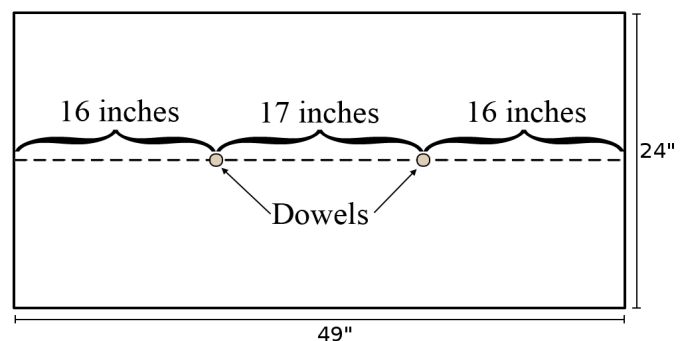

Figure 1: top-down view
Step 1: Drill pilot holes 17 inches apart along the center line of the fiberboard, as shown in Figure 1.